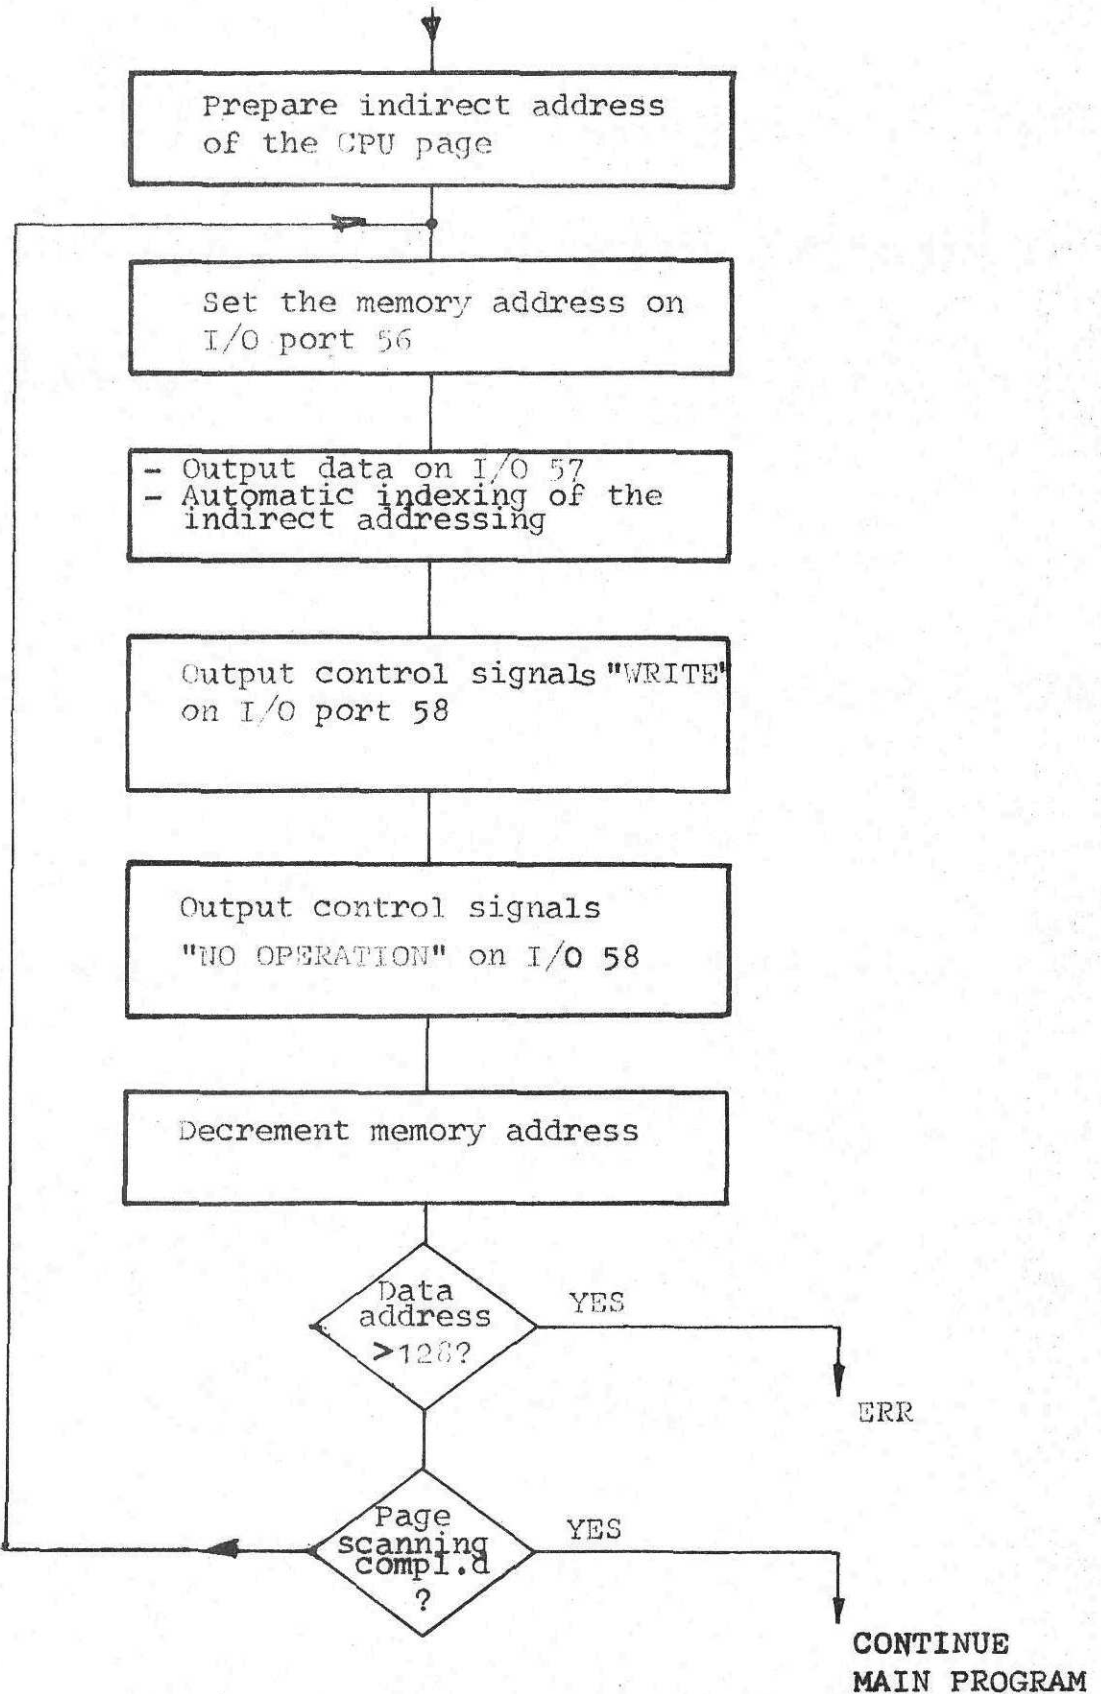
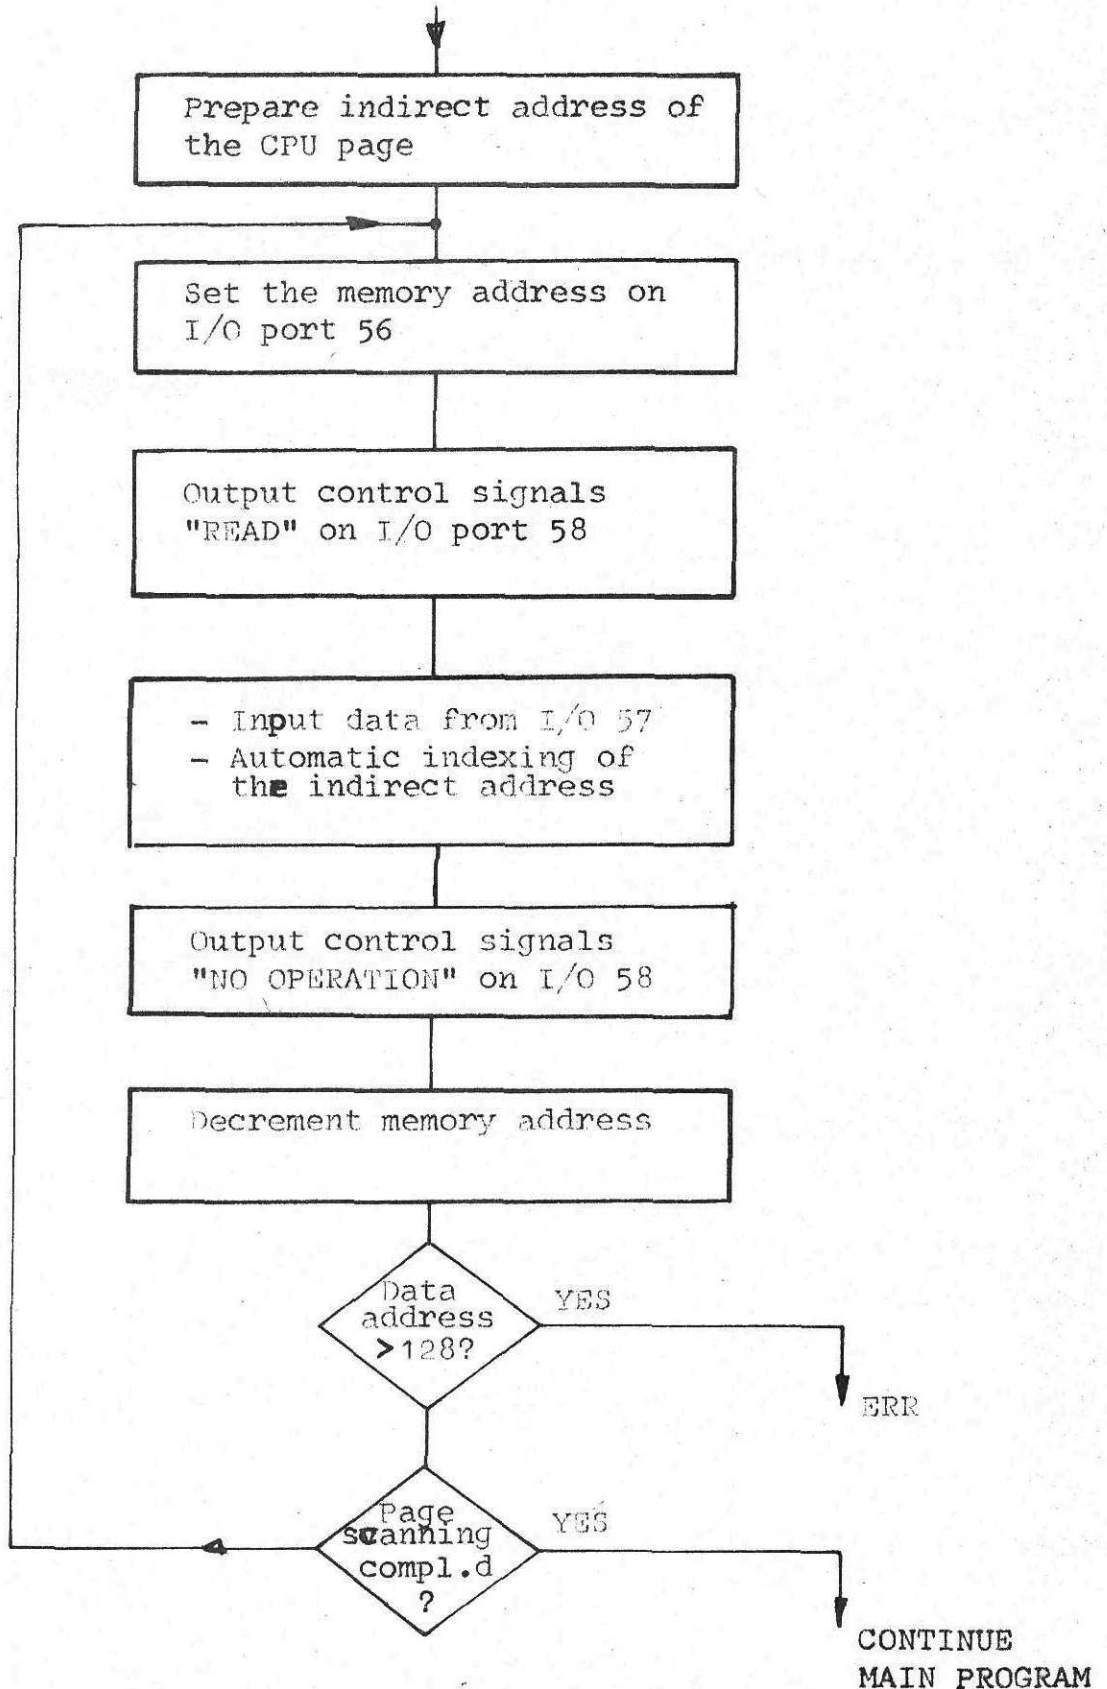

Fig.44A - FLOW-CHART: WRITE ON COS-MOS MEMORY
Fig.44B - FLOW-CHART: READ FROM COS-MOS MEMORY
- 1 - Table 7A and Fig.44A describe the write operation into the COS-MOS memory, while Table 7B and Fig.44B describe the 'read' operation from the COS-MOS memory.